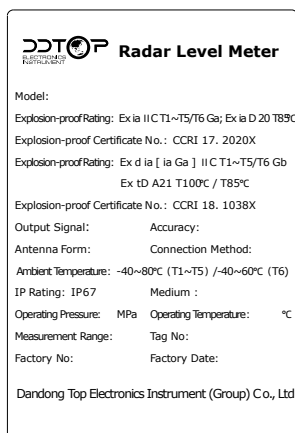

Figure 6 Nameplate
5.1.1 Check the product nameplate for consistency with the supply list information - Figure 6